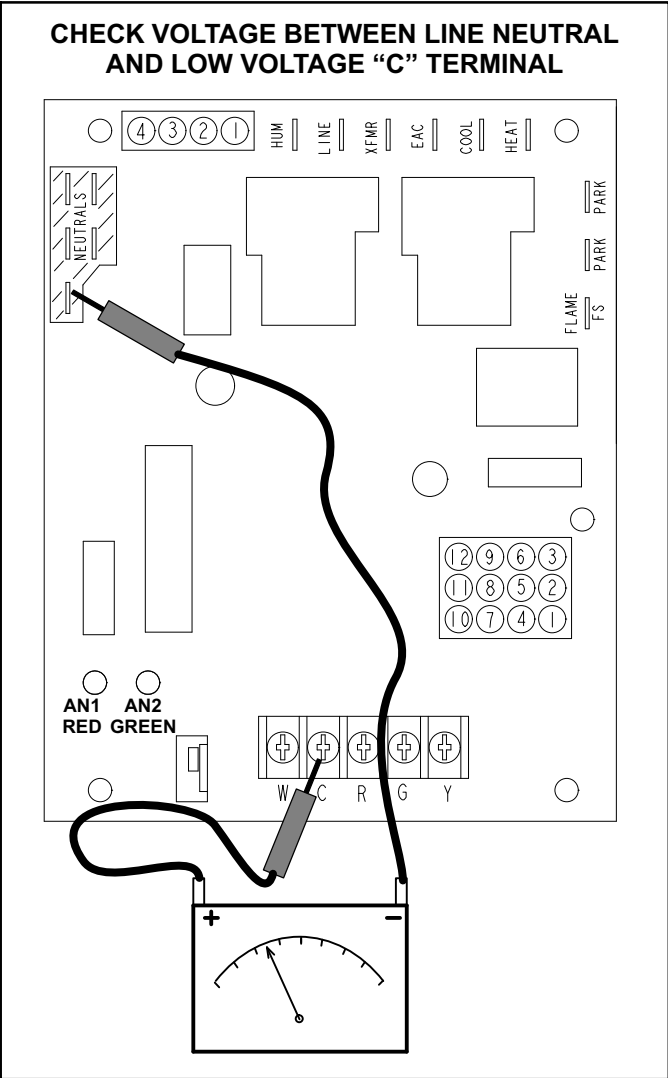

FIGURE 66
- 1 - Measure the AC voltage between Line Neutral (spade terminals) and "C" terminal (low voltage terminal block) on the integrated control. See figure 66. A wide variation in the voltage between Line Neutral and "C" as a function of load indicates a poor or partial ground. Compare the readings to the table below. If the readings exceed the maximum shown in table 1, make repairs before operating the furnace.